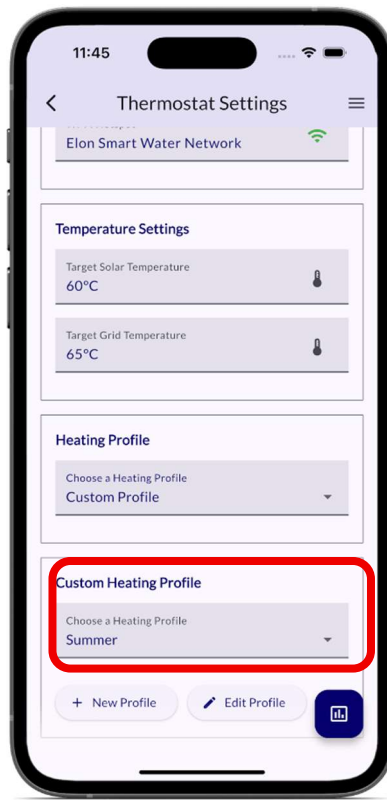

Fig 4.20 Choose a custom profile
- If you have already configured some custom profiles, you can select the custom heating profile you wish to activate (see Figure 4.20).